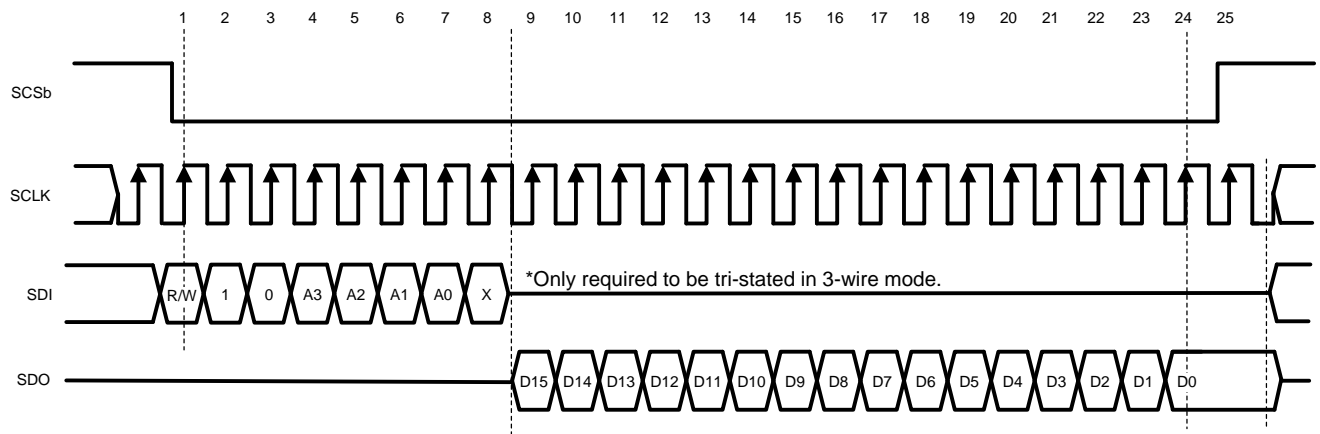
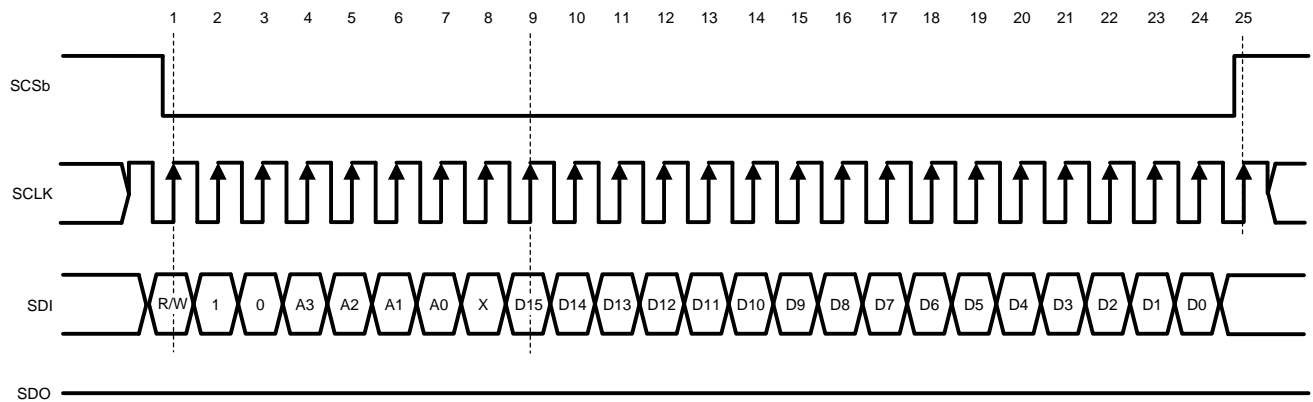

Figure 42. Serial Data Protocol - Read Operation
Figure 43. Serial Data Protocol - Write Operation
**** $\overline{\text{SCS}}$ transition from Low to High must occur t_{HCS} after the 24th SCLK cycle during a low cycle. The serial data protocol is shown for a read and write operation in Figure 42 and Figure 43, respectively.